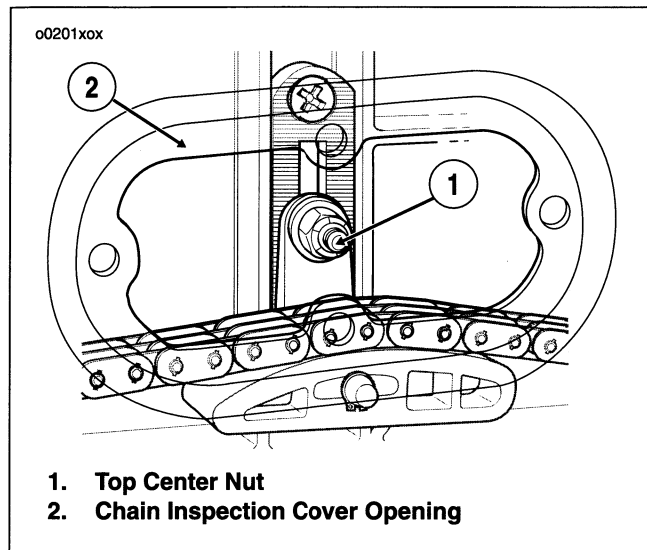

Figure 36. Chain Tensioner Assembly
- a. See Figure 36. Locate the chain tensioner assembly and loosen the top center nut a maximum of two turns.
3. See Figure 36. Remove five T27 TORX® screws (with captive washers) to free clutch inspection cover from primary chaincase cover.